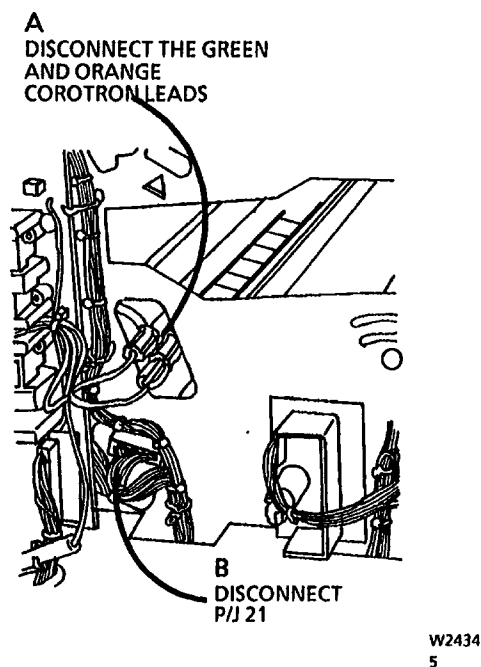

Figure 1. Disconnecting the Connectors
2. (Figure 1): Disconnect the connectors on the left side of the copier.